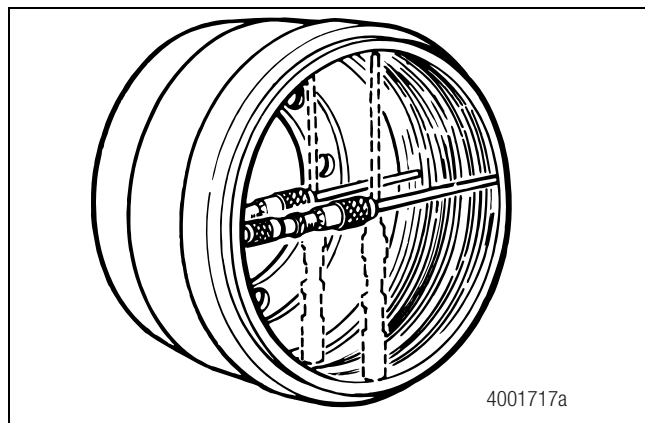

Figure 7.44
- **If any of these measurements are 0.120-inch (3.048 mm) over nominal diameter:** Replace the brake drum. Figure 7.44.